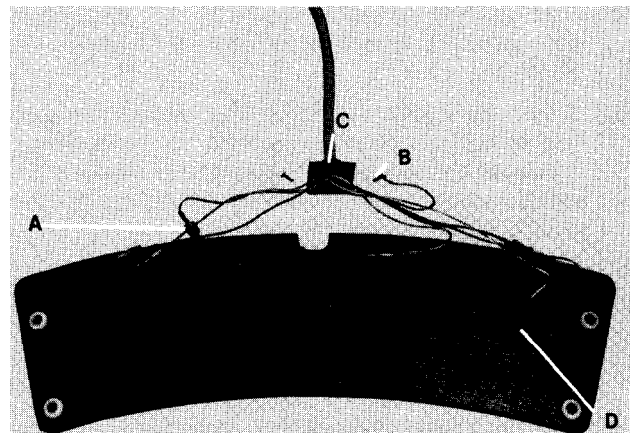

Fig. 38
- 1) Remove cover from bottom of footswitch by removing (7) # 10 Phillips headscrews.
- 2) Disconnect cord by pulling apart (7) quick disconnect wire connectors, Item A, Fig. 38, and removing (2) # 10 taptite screws at the base of the cord bracket, Item B, Fig. 38.
- 3) Hold cord bracket and grasp strain relief bushing, Item C, Fig. 38, with hand pliers (See Special Tools on Page 24.) Squeeze tab on bushing and pull bushing from bracket.
- 1) Remove (2) # 10 Phillips flathead screws from back of footswitch which hold the module, Item D, Fig. 38.
- 13) Align two mounting holes and insert (2) # 10 Phillips flathead screws and tighten, Item D, Fig. 38.
- 3) Remove strain relief bushing, Item C, Fig. 38, from cord by grasping bushing with hand pliers (See Special Tools on Page 24), squeezing tab on bushing, and pulling bushing out of hole in bracket.
- 7) Insert new cord through bracket (See Fig. 38) and install strain relief bushing using the hand pliers, (See Special Tools on Page 24).
Hand Pliers (Fig. 38) is used to remove and install the strain relief bushings. These pliers are manufactured by Heyman Manufacturing Co. and are available through their sales office in Waukesha, Wisconsin. When ordering, specify No. 29 Hand Pliers, Heyco **Part# 0022**.